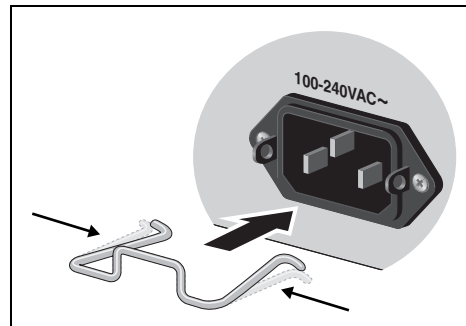

Figure 20. Inserting the Retaining Clip into the Retaining Bracket
2. Install the clip on the AC power connector on the power supply module. With the 'u' of the clip facing down, press the sides of the clip toward the center and insert the short ends into the holes in the retaining bracket, as shown in Figure 20.